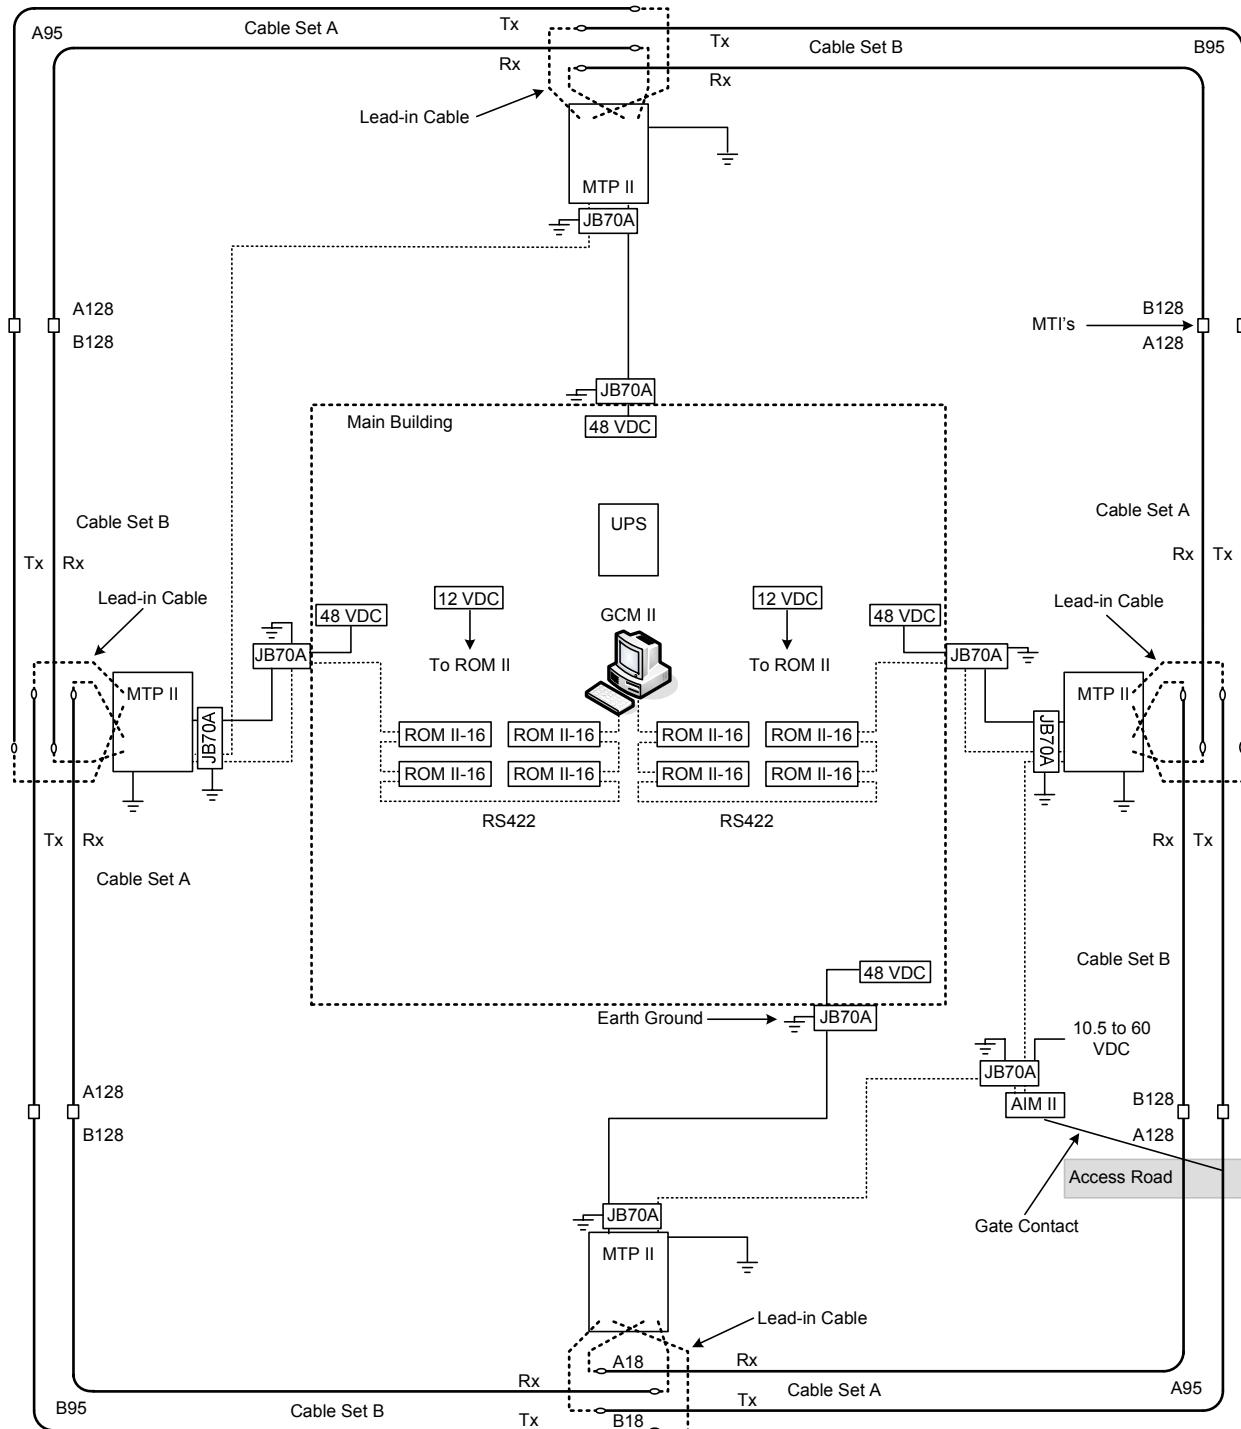

Figure 4.3 – Example of Multiple MicroTrack II Processors
Figure 4.3 shows an example configuration using four MTP II's. A Graphic Control Module II (GCM II) is used to communicate with the MTP II's, ROM II-16's and the AIM II. Each MTP II has a PS48 power. All power supplies and the GCM II are connected to the recommended UPS. Cable overlaps from the MTP's are connected using the MTI (MicroTrack In-line Termination). Some typical items are shown such as: cable sets, subcell numbers, conduit runs, MTI's, and earth grounds. *Note: Individual component*
Figure 4.3 also shows that the power and data wiring can be in the same conduit for a direct connection to the first MTP II. An alternative to the independent conduit wire runs is to include the power and data wiring in the same trench as the sensor cables. This would use a direct burial cable from such companies as Beldon, Alpha or any equivalent source. **Note: This wire can not be put in conduit in the same trench as the sensor cable.** Direct burial cable requires a sand base to prevent damage to the cable. **Note: Ferrite beads may be required on these lines.**
7. Insure that "A" cables are overlapped at the ends by "B" cables from the adjacent MTP II. (See Figure 4.3)
8. Insure that Transmit cables are in one trench and Receive cables are in the other trench around the entire site. (See Figure 4.3)